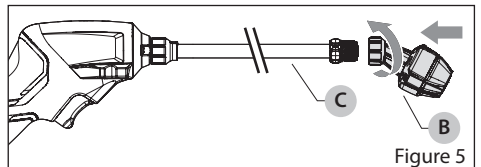

Figure 5
Install 3-in-1 nozzle (B) onto the end of the wand extension (C). Turn clockwise to tighten. See Figure 5.